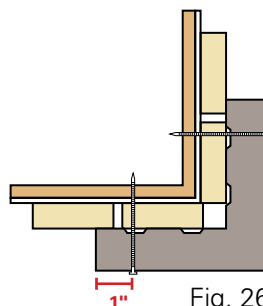

Fig. 26
- All Fraser Wood Siding Corners must be fastened with 3" Fraser Wood Siding Colour Matched Nails every 16" on center – approximately 3/4" – 1" from the edge of the moulding. (See Figure 26/27)